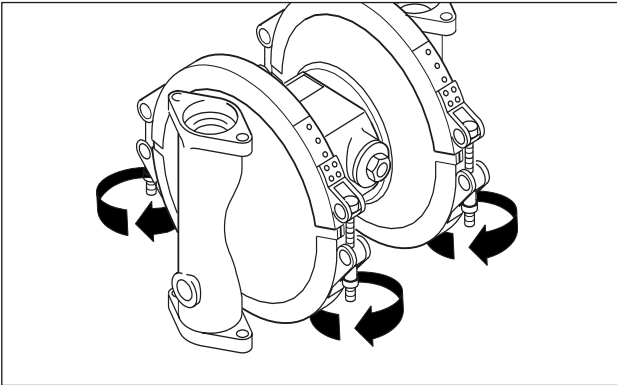

Fig. 10: Opening the clamp bands.
- Loosen the clamp bands (to avoid sizing of high-grade steel nuts and bolts, if necessary apply some oil) (Fig. 10).